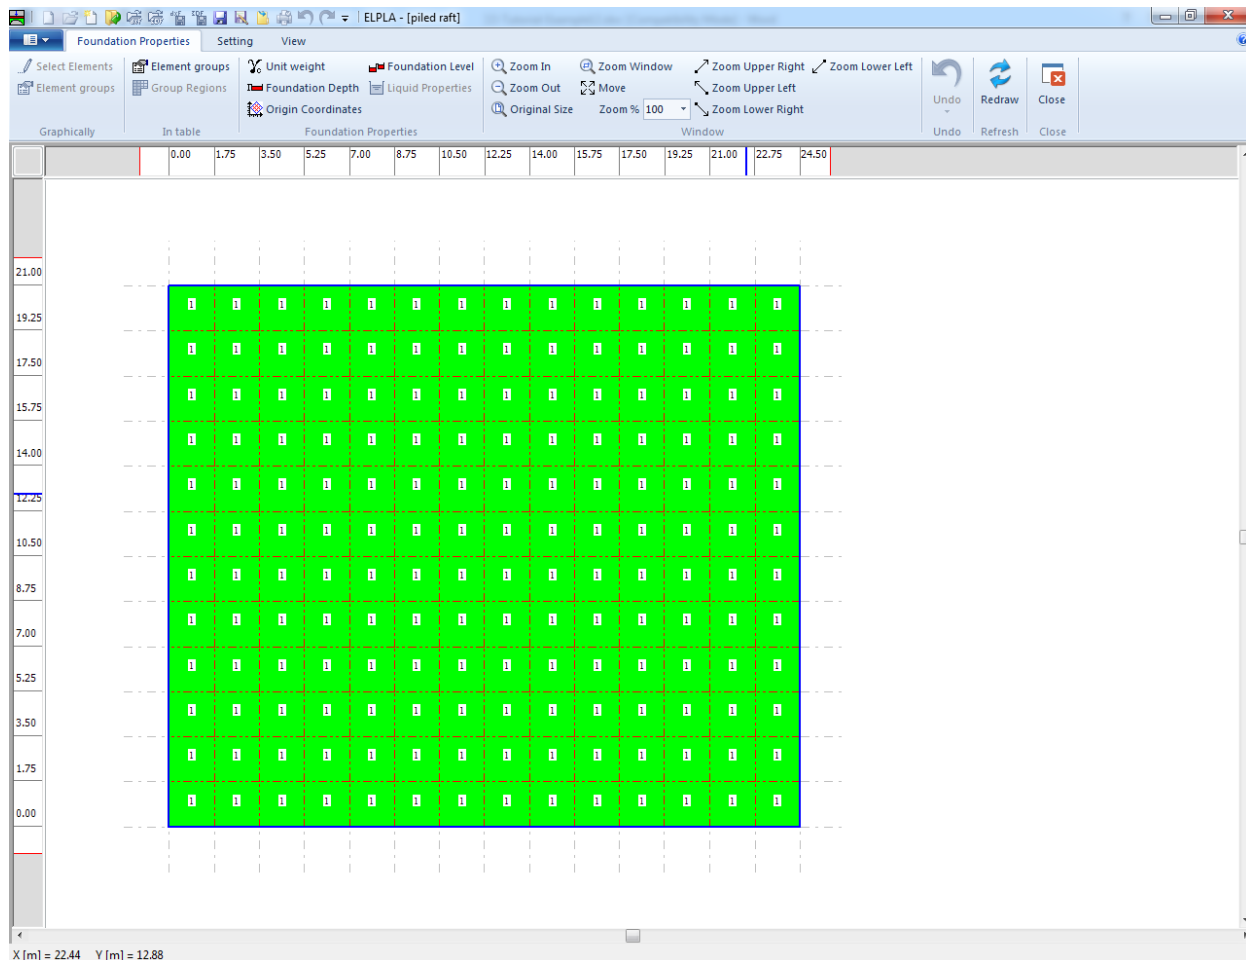
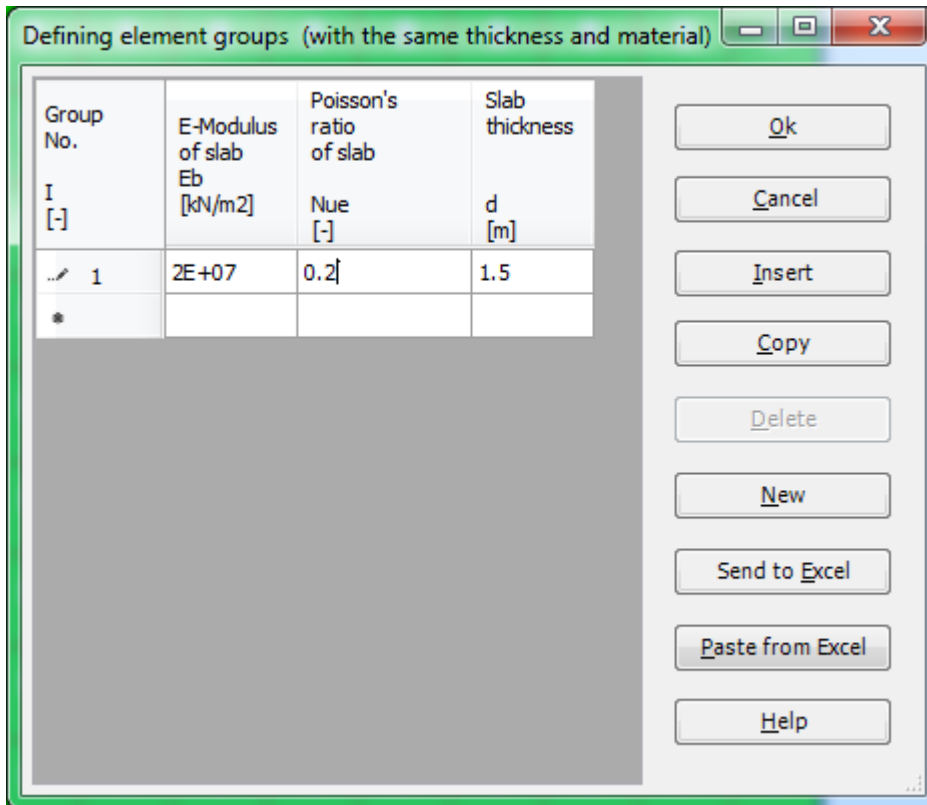
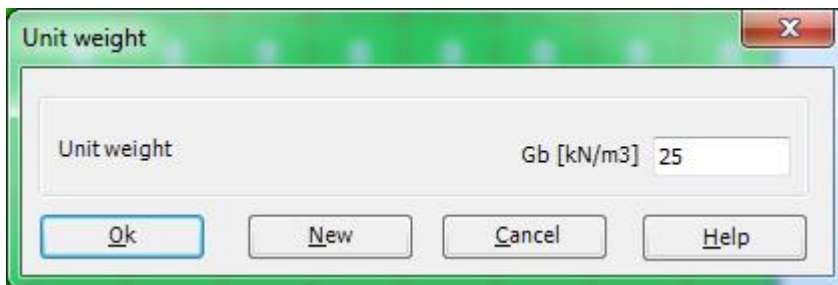
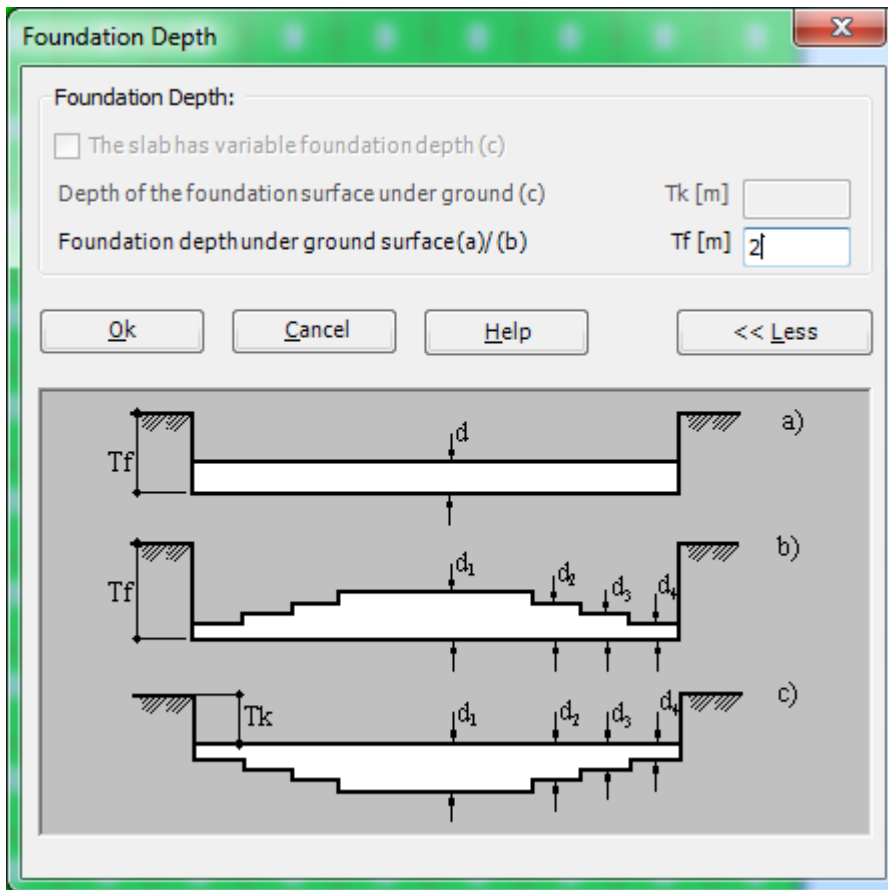

Figure 12.23 "Foundation Properties" Window
Figure 12.24 "Defining element groups" list box
Figure 12.25 "Unit weight" dialog box
Figure 12.26 "Foundation Depth" dialog box
To define the foundation properties, choose "Foundation Properties" command from "Data" Tab. The following Window in Figure 12.23 appears with default foundation properties. The data of foundation properties for the current example, which are required to define, are foundation material and foundation thickness. Any other data corresponding to foundation properties in the program menus are not required. Therefore, the user can take these data from the default foundation properties.
- Choose "Element groups" command from "Foundation Properties" menu in the window of Figure 12.23. The following list box in Figure 12.24 with default data appears. To enter or modify a value in this list box, type that value in the corresponding cell then press "Enter" key. In the list box of Figure 12.24, enter E-Modulus of the foundation, *Poisson's* ratio of the foundation and foundation thickness
- Choose "Unit weight" command from "Foundation Properties" menu in the window of Figure 12.23. The following dialog box in Figure 12.25 with a default unit weight of 25 [kN/m³] appears. Let the default value as written in the edit box "Unit weight of the foundation"
- Choose "Foundation Depth" command from "Foundation Properties" Tab in the window of Figure 12.23. The following dialog box in Figure 12.26 appears
- Choose "Save" command from "File" menu in Figure 12.23 to save the foundation properties
- Choose "Close" command from "File" menu in Figure 12.23 to close the "Foundation Properties" Window and to return to *ELPLA* main window